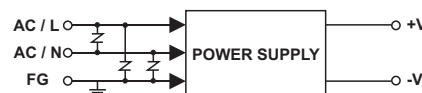

Figure 14: The connection of the Surge Absorber
- Shock Suppression:** Shock is one kind of short-time high voltage and high energy. To prevent the shock, we should add surge absorbers between AC/L - AC/N, AC/L - FG, and AC/N - FG, which are shown as figure 14.